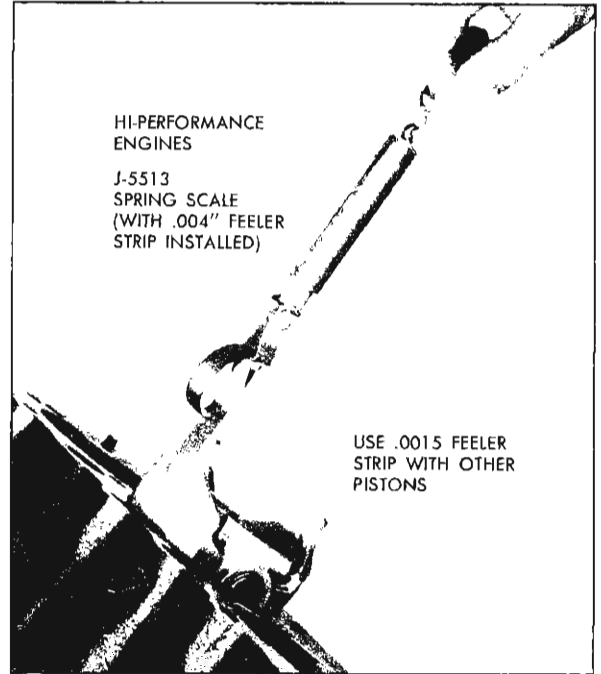

Fig. 65—Checking Piston Fit
- c. Pull the feeler gauge straight up and out, noting at the same time the scale reading which should be between 7 and 18 pounds (fig. 65).